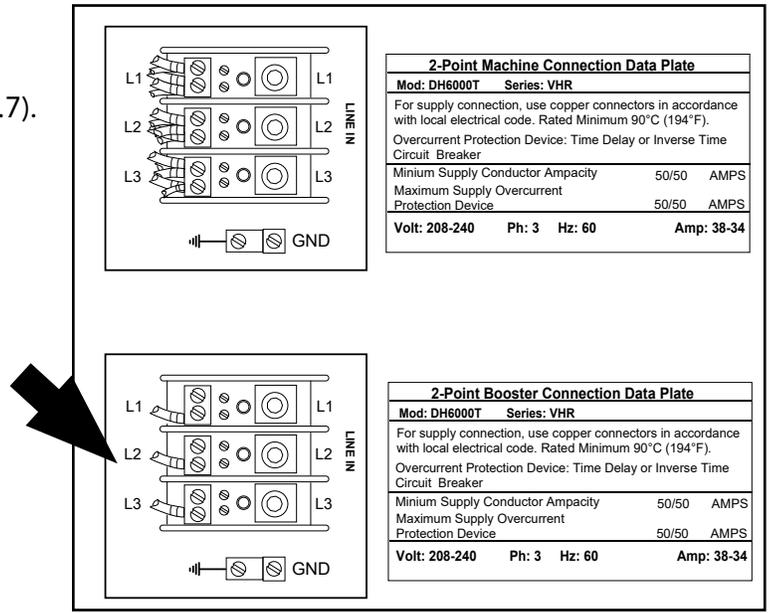

Fig. 7
- Connect the booster wires to the booster terminal block (Fig.7).
- Cover the existing 1-Point machine connection data plate with 2-Point Machine connection data plate from the kit. Install the 2-Point booster data plate adjacent to the booster terminal block (Fig. 7 and Fig. 8).